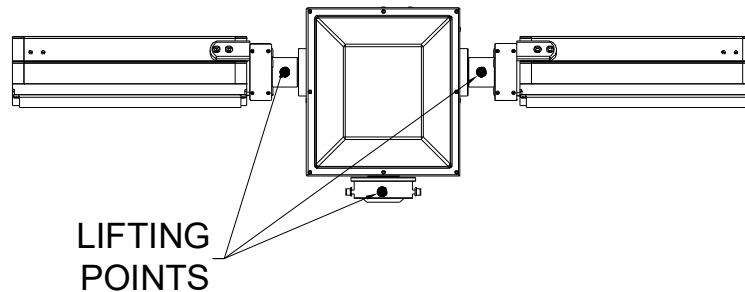

Figure 5-1 Lifting Points on the Night Scan Vertical and Night Scan Vertical Complete RCP
6. **Night Scan Vertical and/or Night Scan Vertical Complete:** Using a hoist, lift the unit from the shipping container by the two horizontal Remote-Controlled Positioner (RCP) shafts and the vertical shaft (Figure 5-1). Lifting from locations other than those indicated could result in equipment damage.
6. Use a properly rated hoist to lift the mast above the roof. Use the lifting points shown in Figure 5-1. Lower the mast through the gasket and roof opening. Once the mast is through the access hole, it is recommended to install the base plate while the mast is still supported by the lifting device (see section 5.4.5). Once the base plate is installed, lower the mast into its final position and loosely install the base plate mounting bolts to locate the base of the mast and fix the mast orientation.